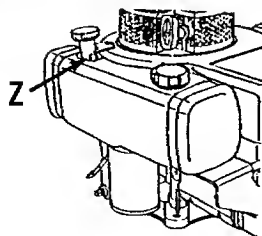

Figure 5-1: Engine oil fill tube and dipstick.
3. Clean area around dipstick (Z, Figure 5-1) to prevent dirt from entering oil fill hole.
2. Remove dipstick (Z, Figure 5-1).